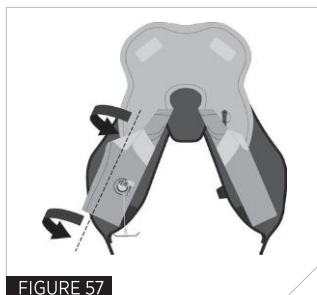

FIGURE 57
8. Fold and tuck outside edge under, along fold line 8 (Fig 57).